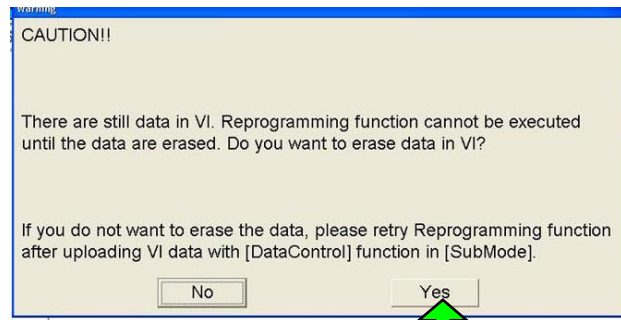

Figure 16
**NOTE:** If the message shown in Figure 16 appears, there is data stored in the plus VI. Select “Yes” to proceed with reprogramming.